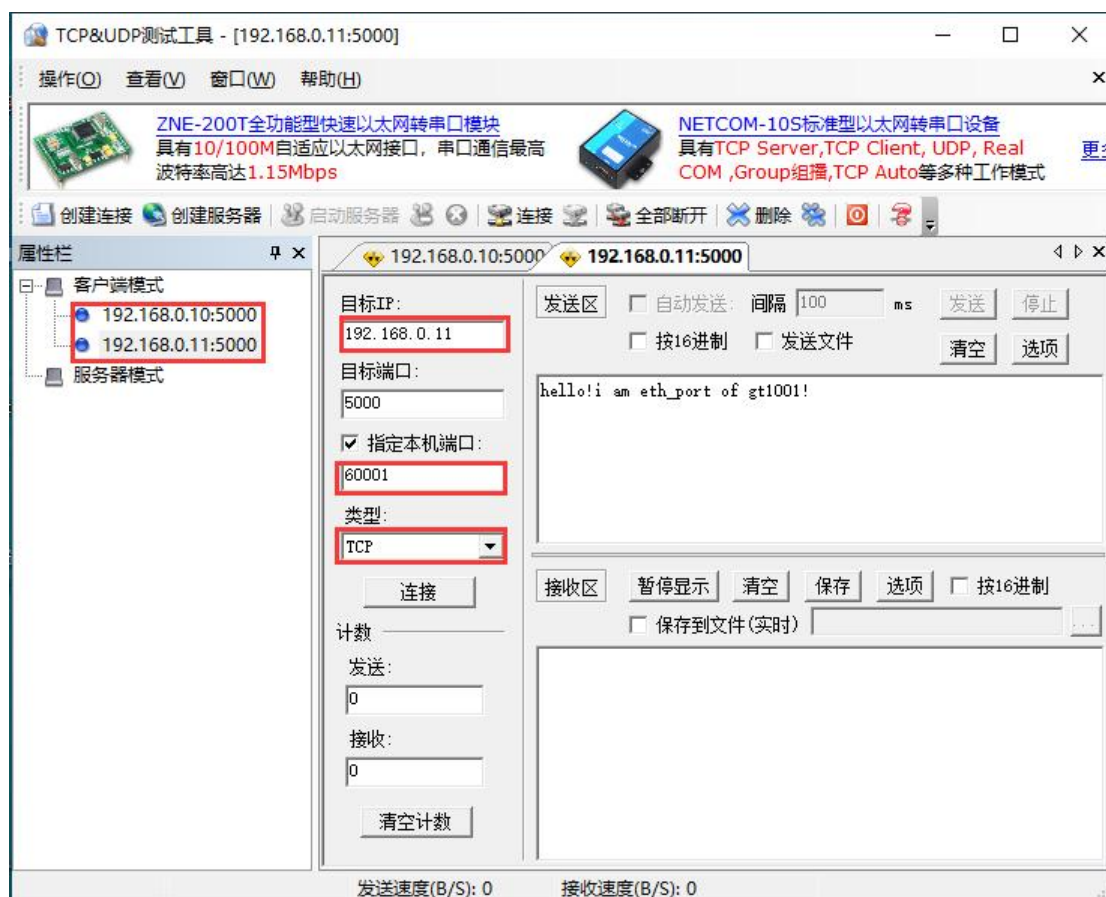

Figure 6-20 Multi-server and single serial port setting interface
(5) As a client, the computer can establish connections with multiple TCP server modules, and the software settings are shown in Figure 6-20.